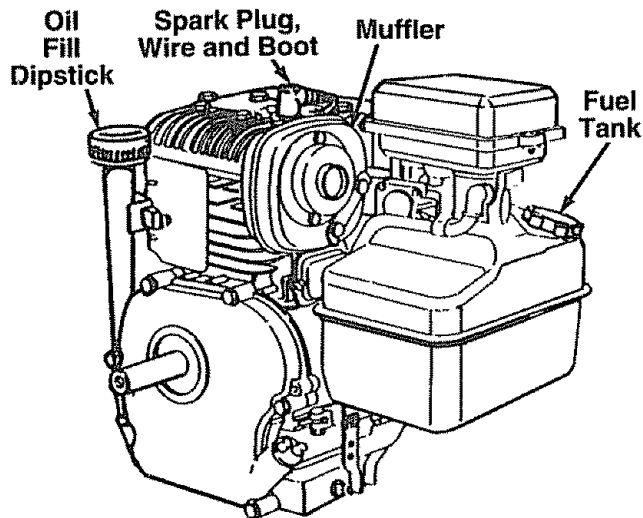

FIGURE 13.
- Attach spark plug wire and rubber boot to spark plug if necessary. See figure 13.